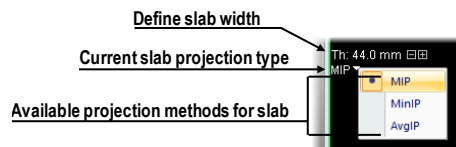

Figure 279 – Controls for defining slab in the current view
4. Select the method for the slab pixel values calculation (see Figure 279).